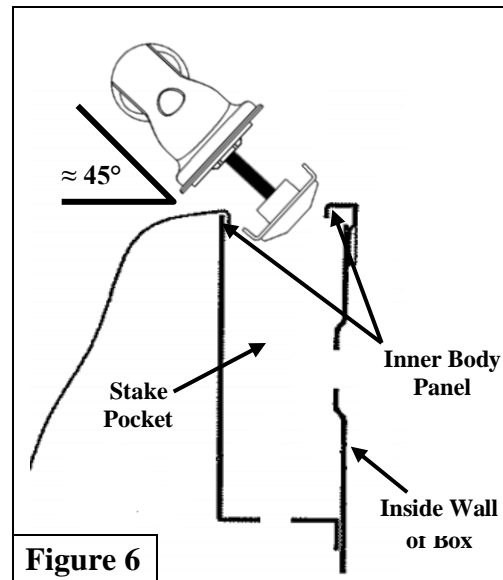

Figure 6
10. Insert locker end casting with the front driver plastic gasket into the driver front pocket hole at about a 45° angle in orientation shown in (**Figure 6**).
- IMPORTANT: Both bracket flanges must rest on inner body panel for secure installation. Refer to (Figure 6) for locations**